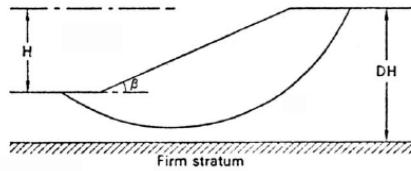

Figure Q2-1 Trial Slip Circle
A wide cutting with side slopes of 30° is excavated in saturated clay to a vertical depth(H) 10.0m as shown in **Figure Q2-1**. Soil properties are as follows:
- a) Determine the factor of safety, F, against the short-term failure by rotational analysis of the trial circle shown in **Figure Q2-1**. Assume that a water filled tension crack is present near the crest of slope.
Q2 Figure Q2-1 & Q2-2 shown over the page....